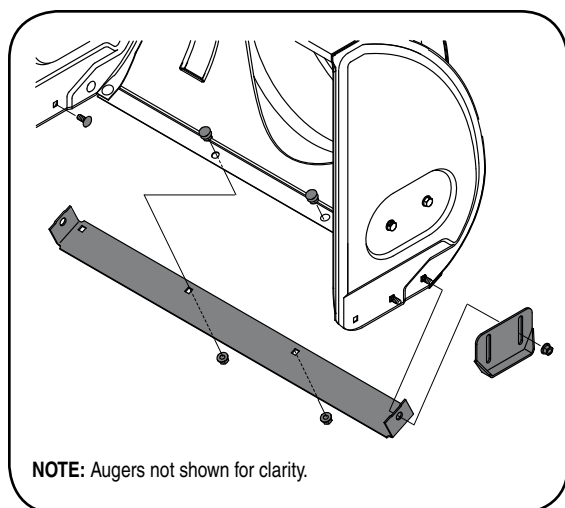

Figure 10
2. Reassemble new skid shoes with the four carriage bolts (two on each side) and hex flange nuts. Refer to Figure 10.